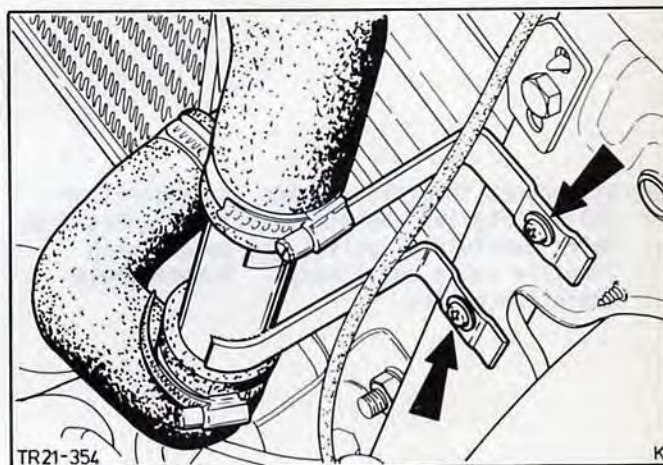

Fig.12. Connecting pipe to overflow tank.
5. Unscrew connecting pipe to the overflow tank from the bodywork (2 screws), Fig.12.